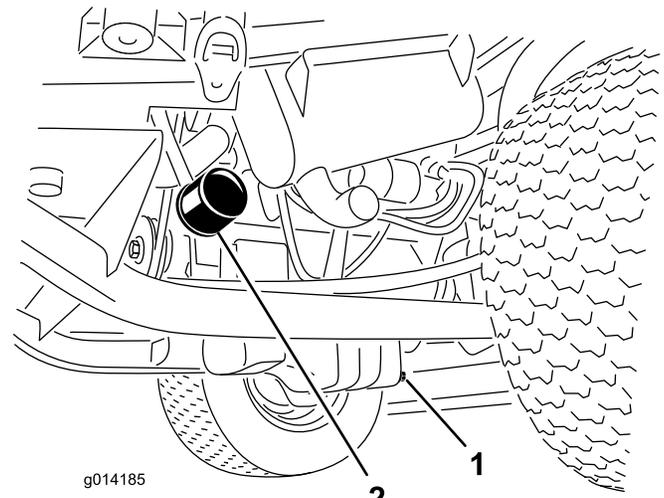

Figure 28
3. Remove the oil filter (Figure 28).
1. Remove the drain plug (Figure 28) and let the oil flow into a drain pan.